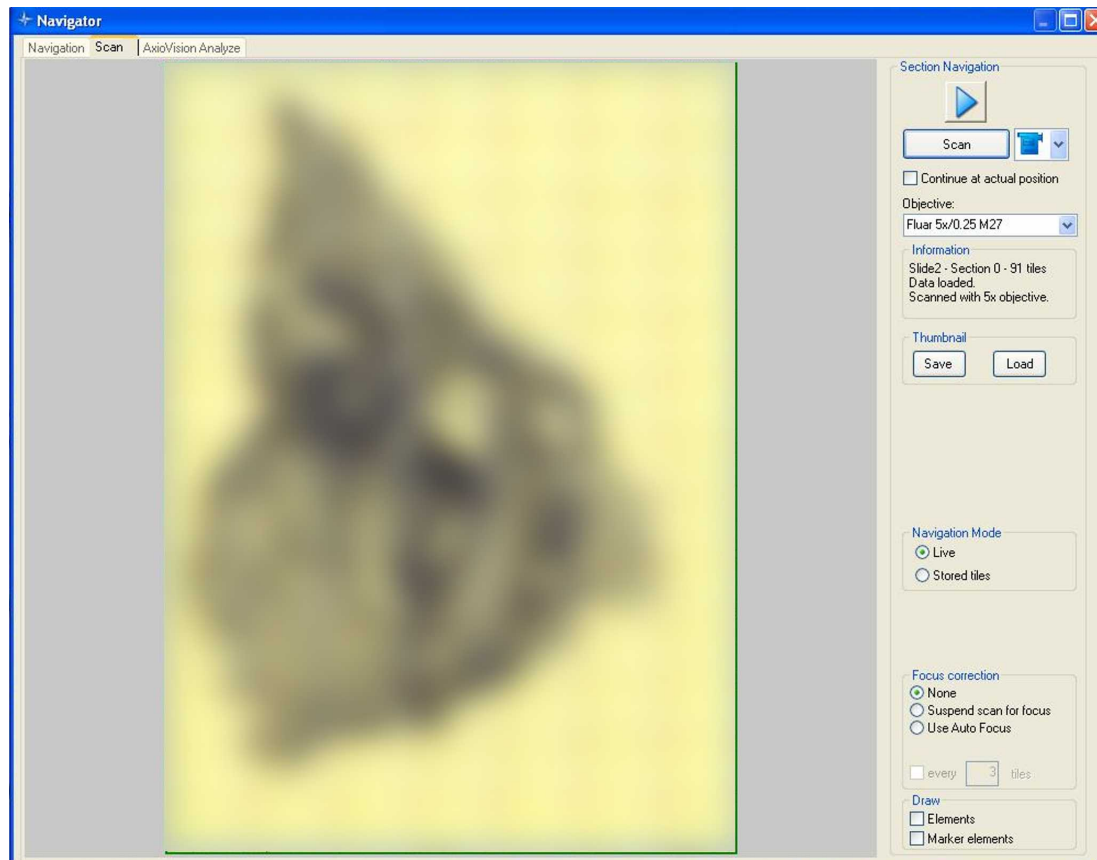

Figure 4. Navigator and Scan Window
Choose "Navigation Window", and "Scan" tab (**Fig. 4**), and scan the slide in desired magnification. Save the images. Scan and save again when finish collecting ROIs from the same slide.
- 11 When sufficient areas of a ROI have been collected, change the collection tube and continue with the next ROI. Refrigerate the collection tube at 4 °C until sample preparation. When all ROIs of a slide have been collected, remove the collection tube. Scan and save again in "Navigation window" (**Fig. 4**). After using the LCM platform, remove all slides and collection tubes, shut down the LCM platform in the reversed order indicated in step 5.